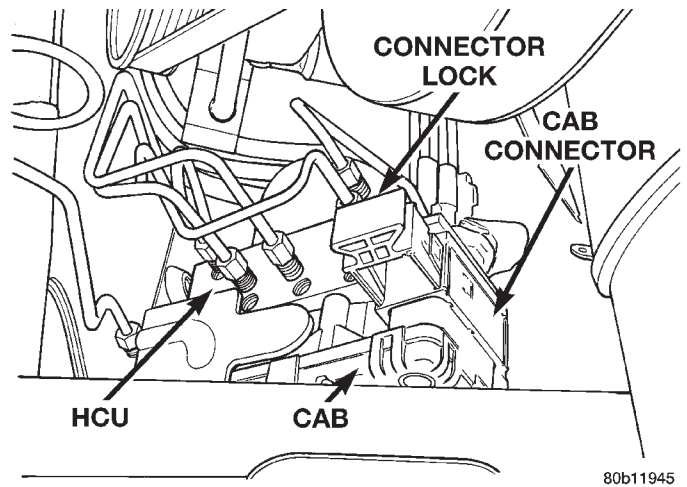

Fig. 33 Unlocked CAB Connector
(15) Disconnect the 25 way wiring harness connector from the CAB using the following procedure. Grasp the lock on the 25 way connector and pull it out from the connector as far as possible (Fig. 33). This will unlock and raise the 25 way connector out of the socket on the CAB.
(4) Install the 25 way connector into the socket on the CAB. The connector is installed using the following procedure. Position the 25 way connector in the socket on the CAB and carefully push it down as far as it will go. When connector is fully seated into the CAB socket push in the connector lock (Fig. 33) as far as it will go. This will pull the 25 connector into the socket on the CAB and lock it in the installed position.